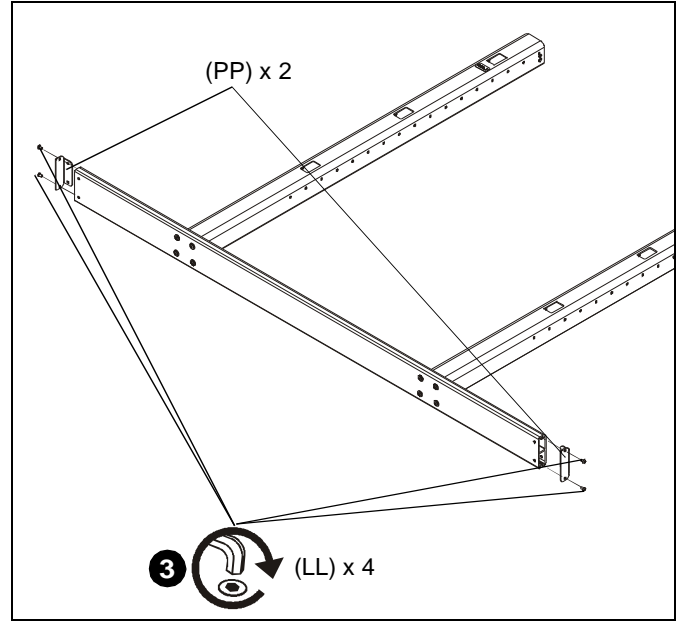

Figure 1
3. Use four 5/16-18 x 1/2" button head cap screws (LL) to secure two end brackets (PP) to cross bar (A). (See Figure 1)